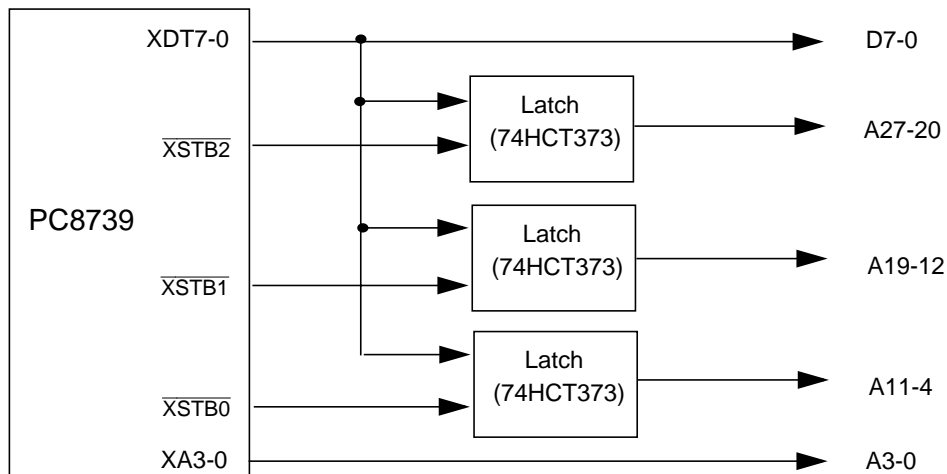

Figure 29. Latched Mode X-Bus Transactions External Logic
- Address multiplexing on XDT7-0 and the  $\overline{\text{XSTB2-0}}$  is designed for glueless interface with off-chip latch components. See the example using 74HCT373 latches in Figure 29.